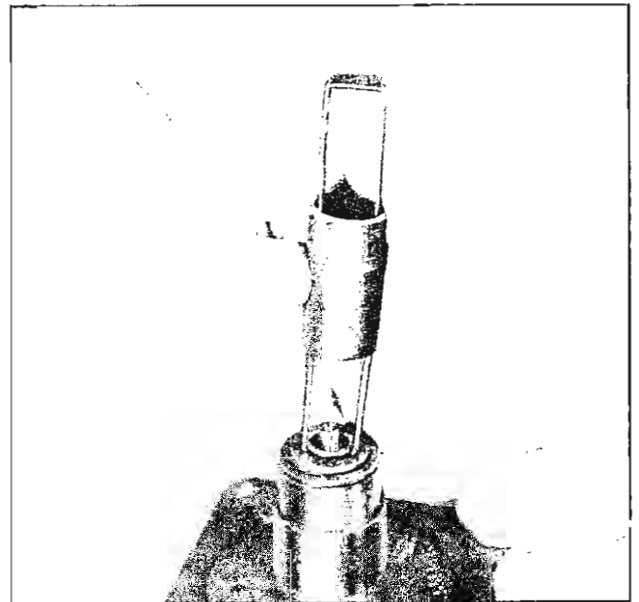

Fig. 25—Removing Seal Seat
3. Using Tool J-9393 (1 and 2), grasp the flange on the seal seat and lift out the seal seat (fig. 25).